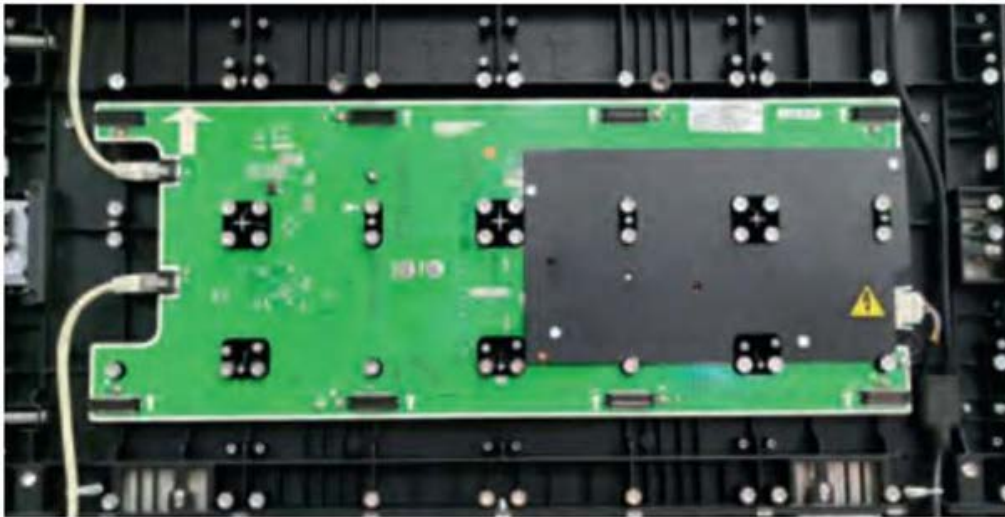

Figure 31
2. Orient the replacement 3-in-1 board with respect to the mounting position as shown in Figure 31.